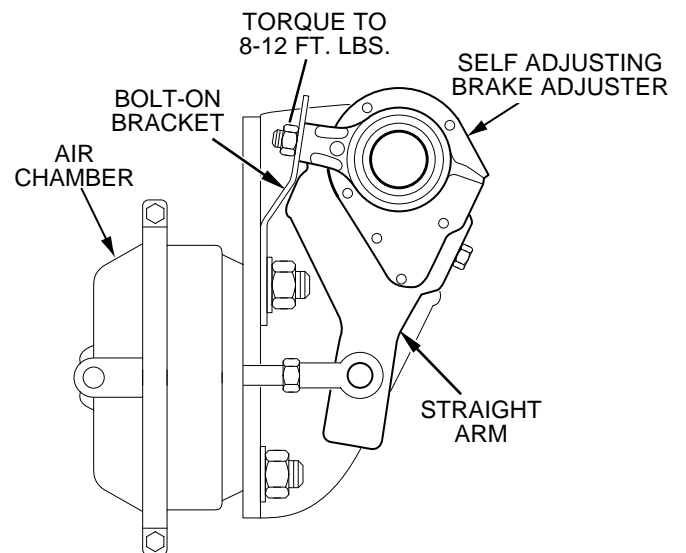

Figure 5 Disc Brake Type Installation
- Disc brake type installation (See Figure 5.)